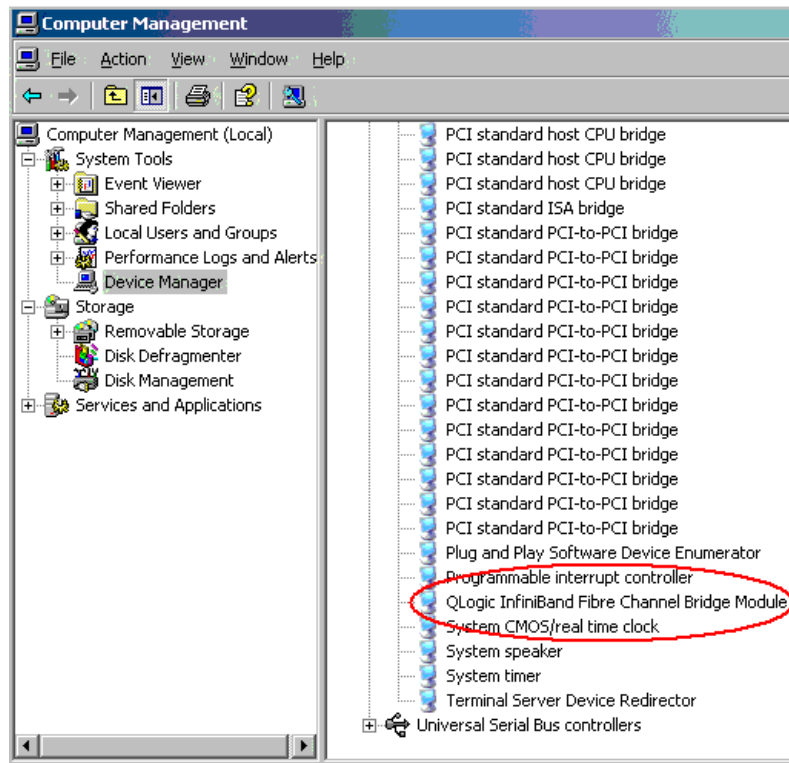

Figure 4-51 Fibre Channel Bridge in Device Manager
3. Click **Next** to continue driver installation. When the driver installation is complete, you see the bridge module under **System Devices** in Device Manager, as shown in Figure 4-51.